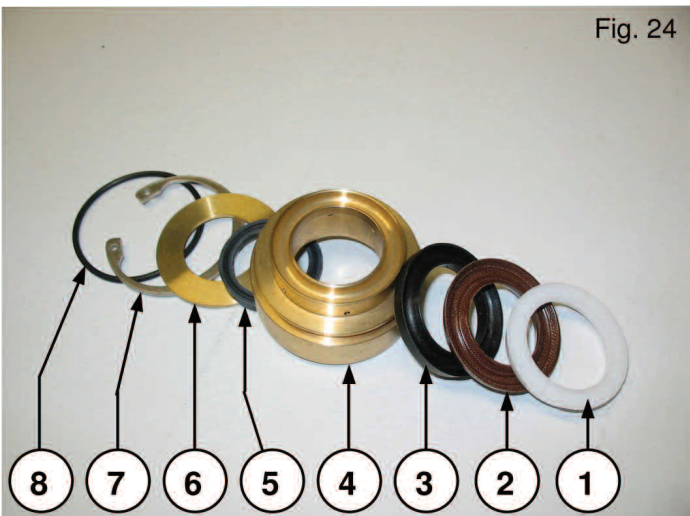

Fig. 24
Take note of the correct order of the entire package components when disassembling (Fig. 24):
** The valve plate must be tightened following the sequence indicated in fig. 24.
*** The fluid end screws must be tightened in 2 stages following the sequence indicated in fig 24: